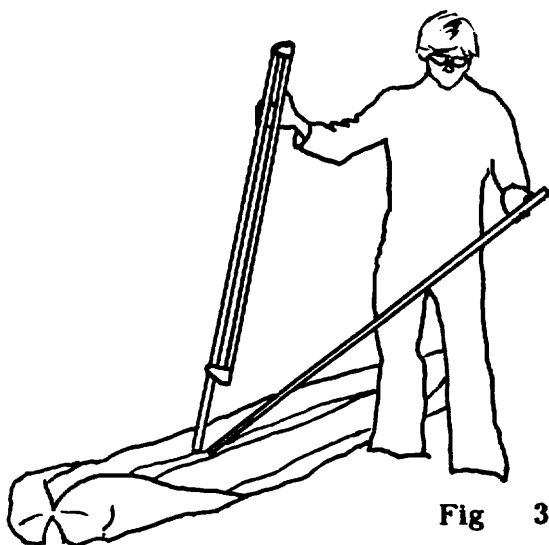

Fig 3
3) Undo the velcro securing the control bar, and fold the bar up and forward. (Fig 3)